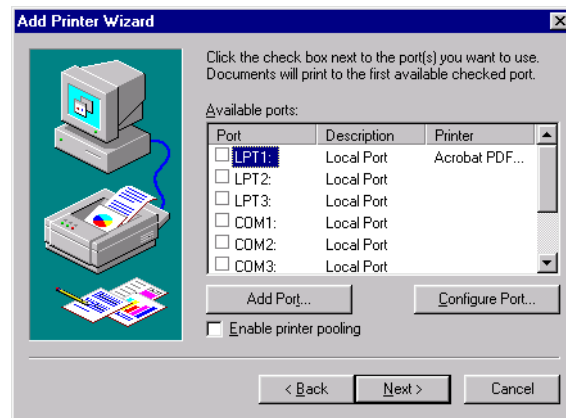

Figure B-10: Selecting a Port
2. Click the printer port to be used (typically LPT1), then click Next (Figure B-10).